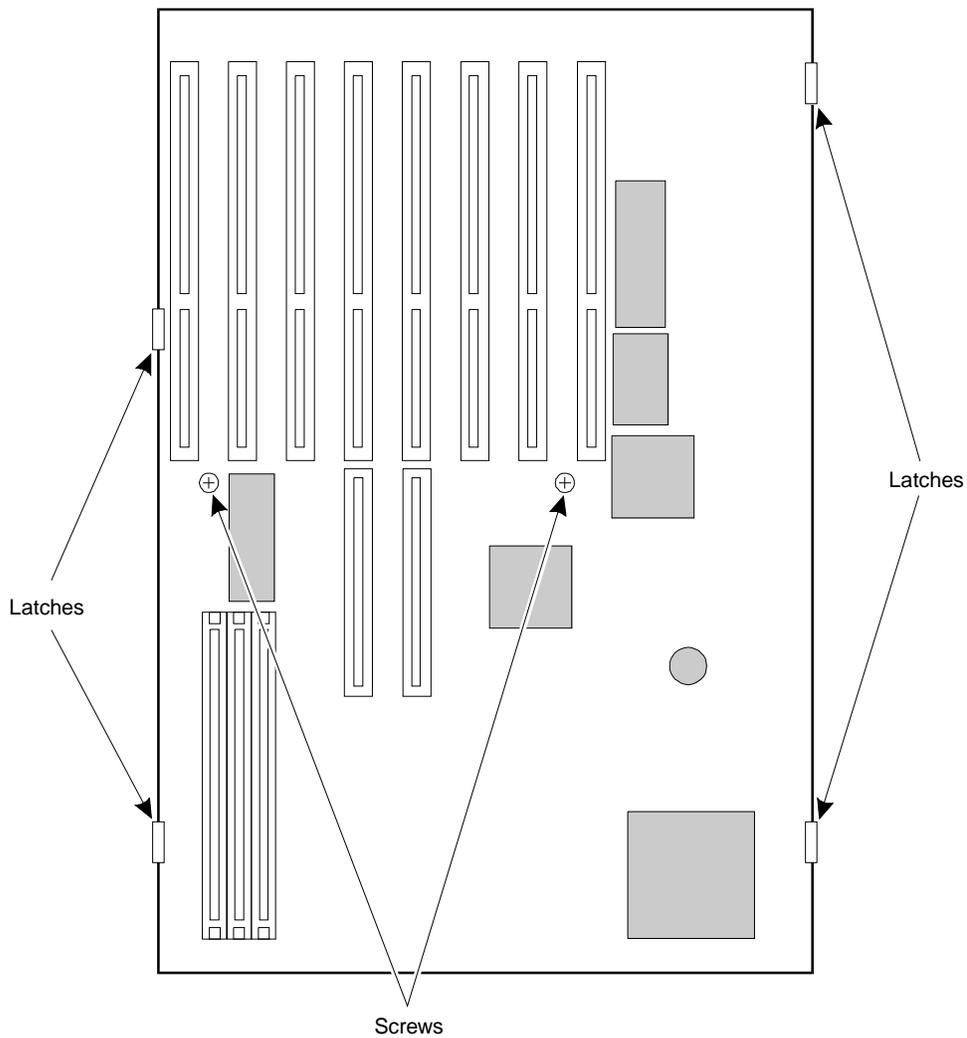

Figure C-7. Screw and Latch Locations on the System Board
5. Remove the two screws from the system board as shown in Figure C-7.
5. Replace the mounting screws in the locations shown in Figure C-7.